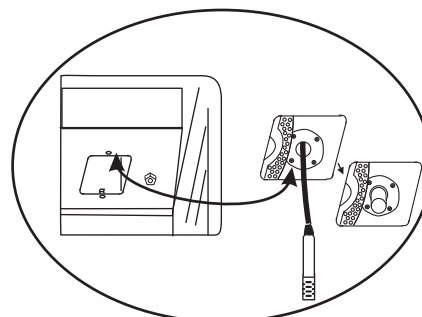

Figure 5-7. IR Sensor with Cable
- Grip the IR sensor and carefully pull it downward. Unscrew the cable from IR sensor (Figure 5-7). Set the sensor aside. See Step 9 for the IR sensor disinfection procedure. Connect the dummy sensor to the cable. Fit the installed dummy sensor up into the previous sensor location.